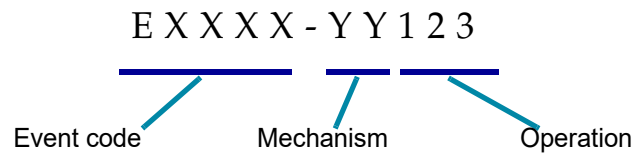

Figure 6-12 Two-part Error Code
①	The touch screen display says that processing is halted in a red banner at the top.
②	The error code is displayed. See Figure 6-12 and Table 6.2 for additional information on error codes.
③	In addition to a description of the error, the error message provides instructions for the operator.
④	If the audible alarm is enabled, the alarm will sound until either the Silence Alarm button or the Close button is touched. The system status lights flash in amber.
①	The touch screen display says it has an unrecoverable error in a red banner at the top.
③	A description of the error is displayed.
④	If the audible alarm is enabled, the alarm will sound until either the Silence Alarm button or the instrument is powered down. The system status lights flash in red.
⑤	With unrecoverable errors, a Service Mode button is available on the error notification. The service mode is for service personnel trained by Hologic and is password-protected.